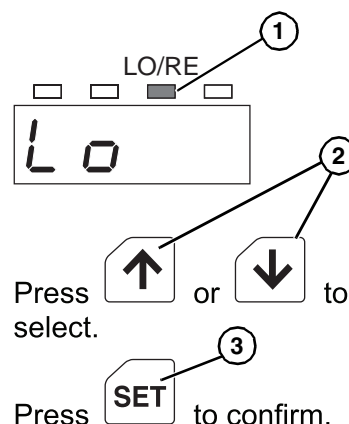

Figure 41
- a. Press MODE to switch to the digital operator/external input signal setting mode. The LO/RE LED (Figure 41, item 1) will illuminate.
- b. Press up or down (Figure 41, item 2) select to select "RE" (remote operator).
- c. Press SET (Figure 41, item 3) to confirm the selection. The display will blink.